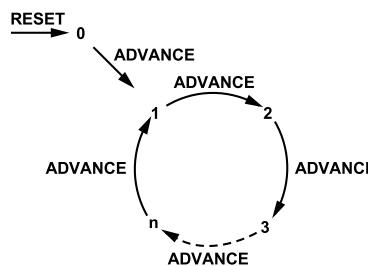

Figure 28. State Machine Position Loop
Figure 28 shows how the state machine pointer moves through a loop. In this diagram, n is the total number of states inside the loop. Because the sequencer depth bit field is 0 indexed, n is equal to one more than the value of the bits in the sequencer depth.
- ▶ Bit 0 to Bit 3: MULT_STATES. Sets the number of states in the loop (see Figure 28).
Register 0x017 contains Bit 0 to Bit 6, TX_STATES, which sets the number of states in the loop (see Figure 28).